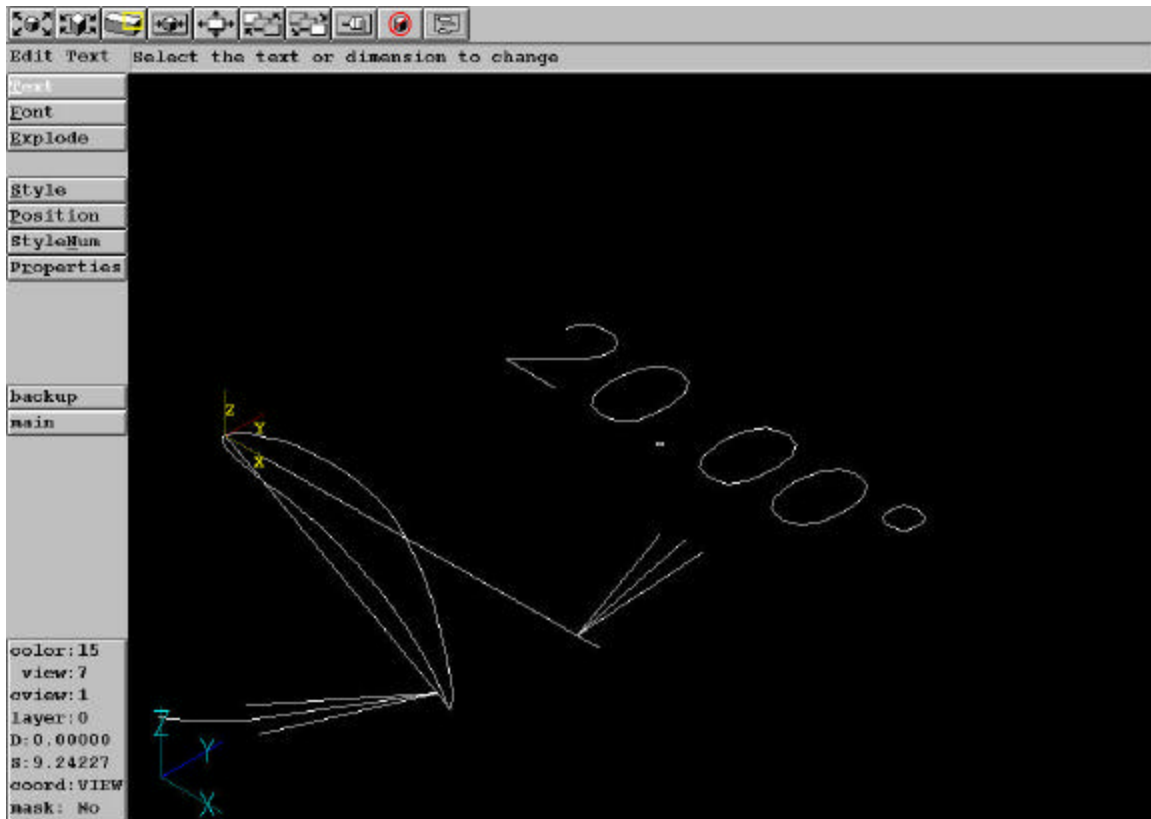

Figure 32: Rotated Airfoil
- 4.) Click KEYBOARD and enter the origin for the point of rotation. The airfoil should rotate slightly on the screen. See figure 32. (Two lines have been created here for effect only. These lines, along with the dimension, show the 20 degree rotation of the airfoil only. These items should not appear on the screen after the airfoil is rotated).